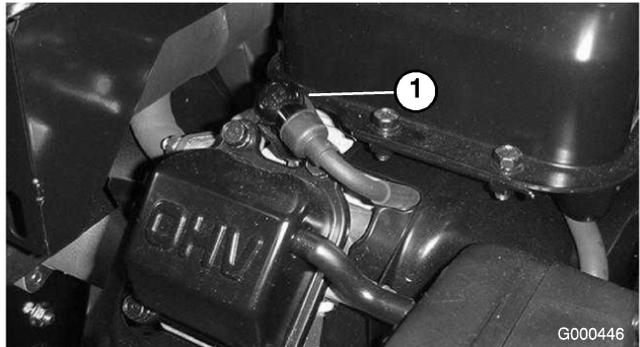

Figure 23
1. Pull wire off spark plug (Figure 23).